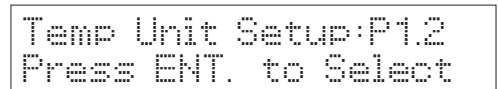

Figure 85
2. Use  $\Delta/MI$  key to scroll to program *Temp Unit Setup: P1.2*. See **Figure 85**.